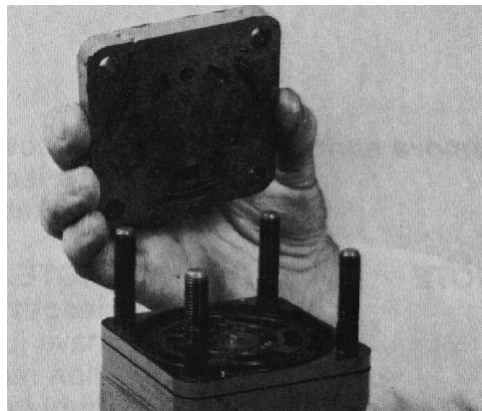

Figure 31
7. Carefully lift the port manifold (3 plates bonded together) from the unit (Fig. 31).